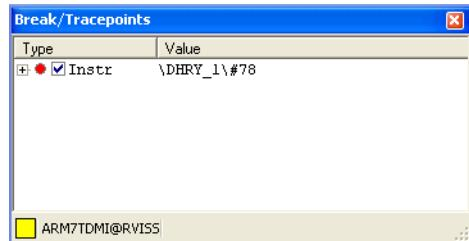

Figure 11-8 Breakpoint in the Break/Tracepoints view
1. Select **Break/Tracepoints** from the **View** menu to display the Break/Tracepoints view, if it is not already visible. Figure 11-8 shows an example: